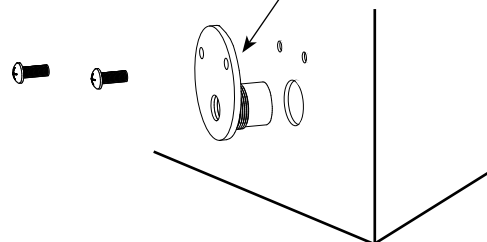

Figure 3. Pressure Sensor
1. Measure and mark mounting location for sensor. (Mounting hole should be approximately 2" from bottom of tank.) Make sure there is clearance for sensor and cable before drilling hole. Refer to Figure 3 for dimensions.
1. Measure and mark mounting location for adapter. Make sure there is clearance for adapter, sensor, and cable before drilling hole. Refer to Figure 3 for dimensions.